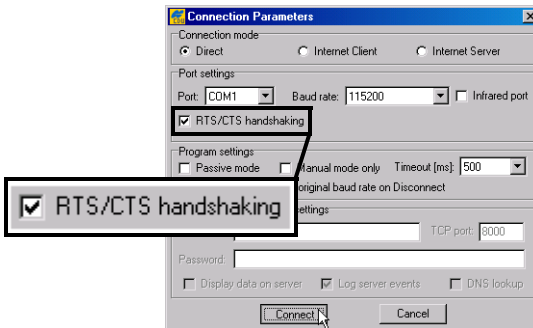

Figure 5-9. Connection Parameters – RTS/CTS Handshaking
3. On the **Connection Parameters** dialog box, enable *RTS/CTS* handshaking, and click **Connect** (Figure 5-9).